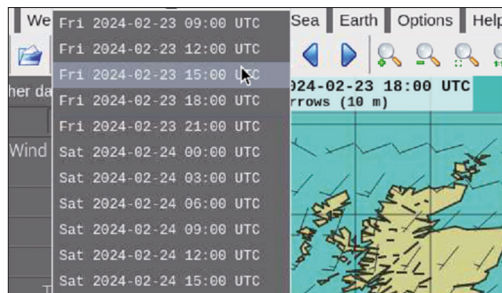

Figure 17.59 Change the time or day of the forecast.
- You can change the time or day of the forecast by clicking at the top left part of the screen where it displays the data and time and UTC (Figure 17.59).